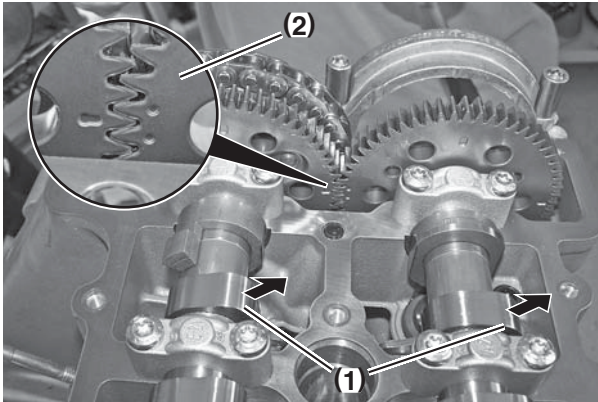

Figure 5-73
2. Rotate the crankshaft in the normal running direction until No. 1 cylinder is at TDC of the power stroke. The front lobe of each camshaft (**Figure 5-73, (1)**) will be facing the exhaust side.
3. Verify position by checking that the camshaft timing marks on gears are aligned (**Figure 5-73, (2)**). The single mark on intake camshaft gear must fall between the two marks on the exhaust camshaft gear.